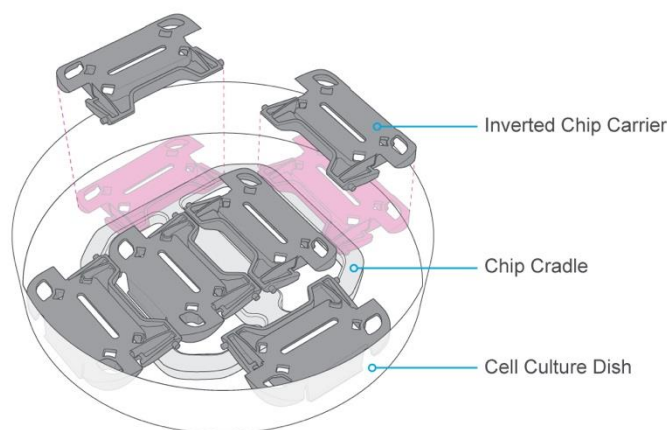

Figure 6: Inverting chips during endothelial attachment
7. After confirming the correct cell density, seed cells in the remaining chips, invert each chip, and rest the edge of the chip carrier on the chip cradle. Note: Each chip cradle can support up to 6 chips inside a 150 mm cell culture dish. (See Figure 6.)
When both endothelial and epithelial cells are cultured in the same media, use the gravity wash method described in the endothelial cell culture section (See Figure 6).